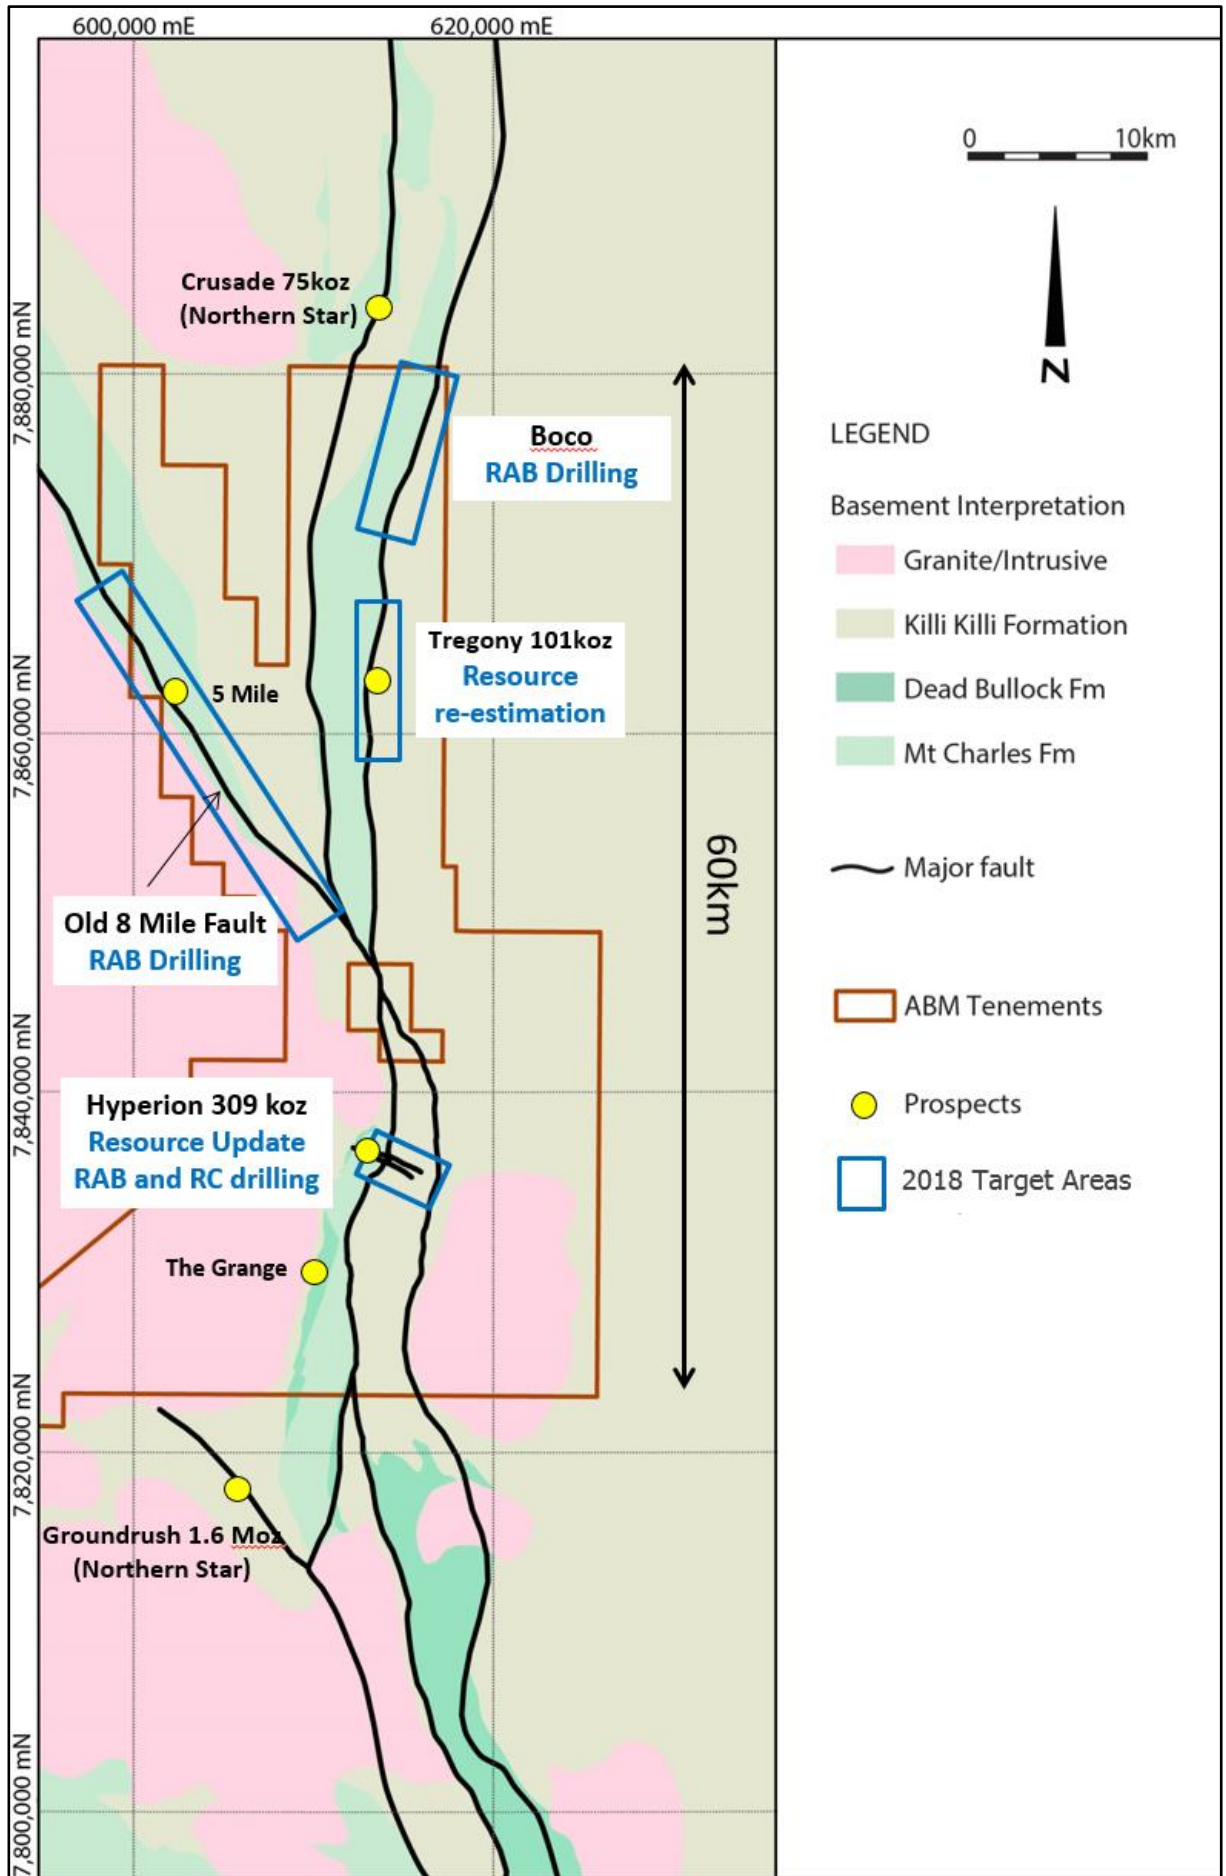

Figure 1. Suplejack Project known deposits and 2018 drilling targets
*"The gold camp at Suplejack extends over 75 kilometres from Groundrush (NST) in the South to Crusade (NST) in the North (Figure 1). ABM is expanding its activities in 2018 to apply what we have learnt to the larger project area while continuing to grow the mineralisation drilled at Hyperion, Tethys and Seuss."*
The Suplejack Project is located 50km to the North of the Central Tanami Plant (NST). ABM's tenements contain 60km strike length of prospective terrain adjacent to the Suplejack Fault. This corridor contains the Groundrush deposit (1.6Moz), Hyperion (310koz), Tregony, and Crusade deposits (Figure 1).
Hyperion South and Hyperion (Figure 2 & 3). These extensions will be tested in the next aircore program at Suplejack (Figure1).